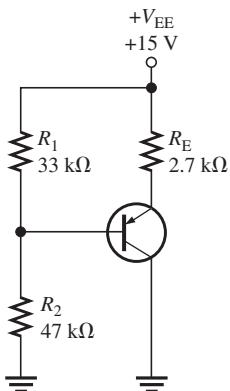

FIGURE 3-72
14. For the voltage-divider biased (*pnnp*) circuit in Figure 3-72, determine I_C and V_{CE} .
15. Determine the end points for the dc load line, $I_{C(sat)}$ and $V_{CE(cutoff)}$ for Figure 3-72.
28. For the *npn* CC amplifier in Figure 3-72, show where the input and output signals should be connected.